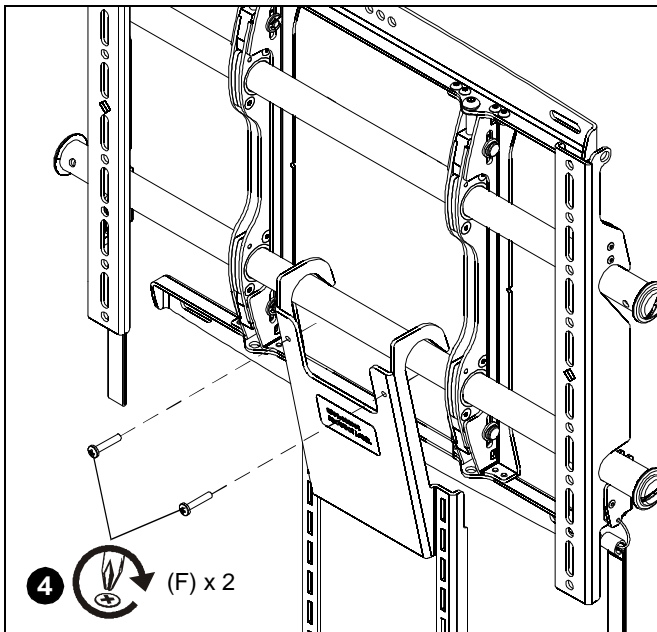

Figure 5
4. Adjust location and secure to wall mount rail using two 10-24 x 1" Phillips pan head screws (F). (See Figure 5)